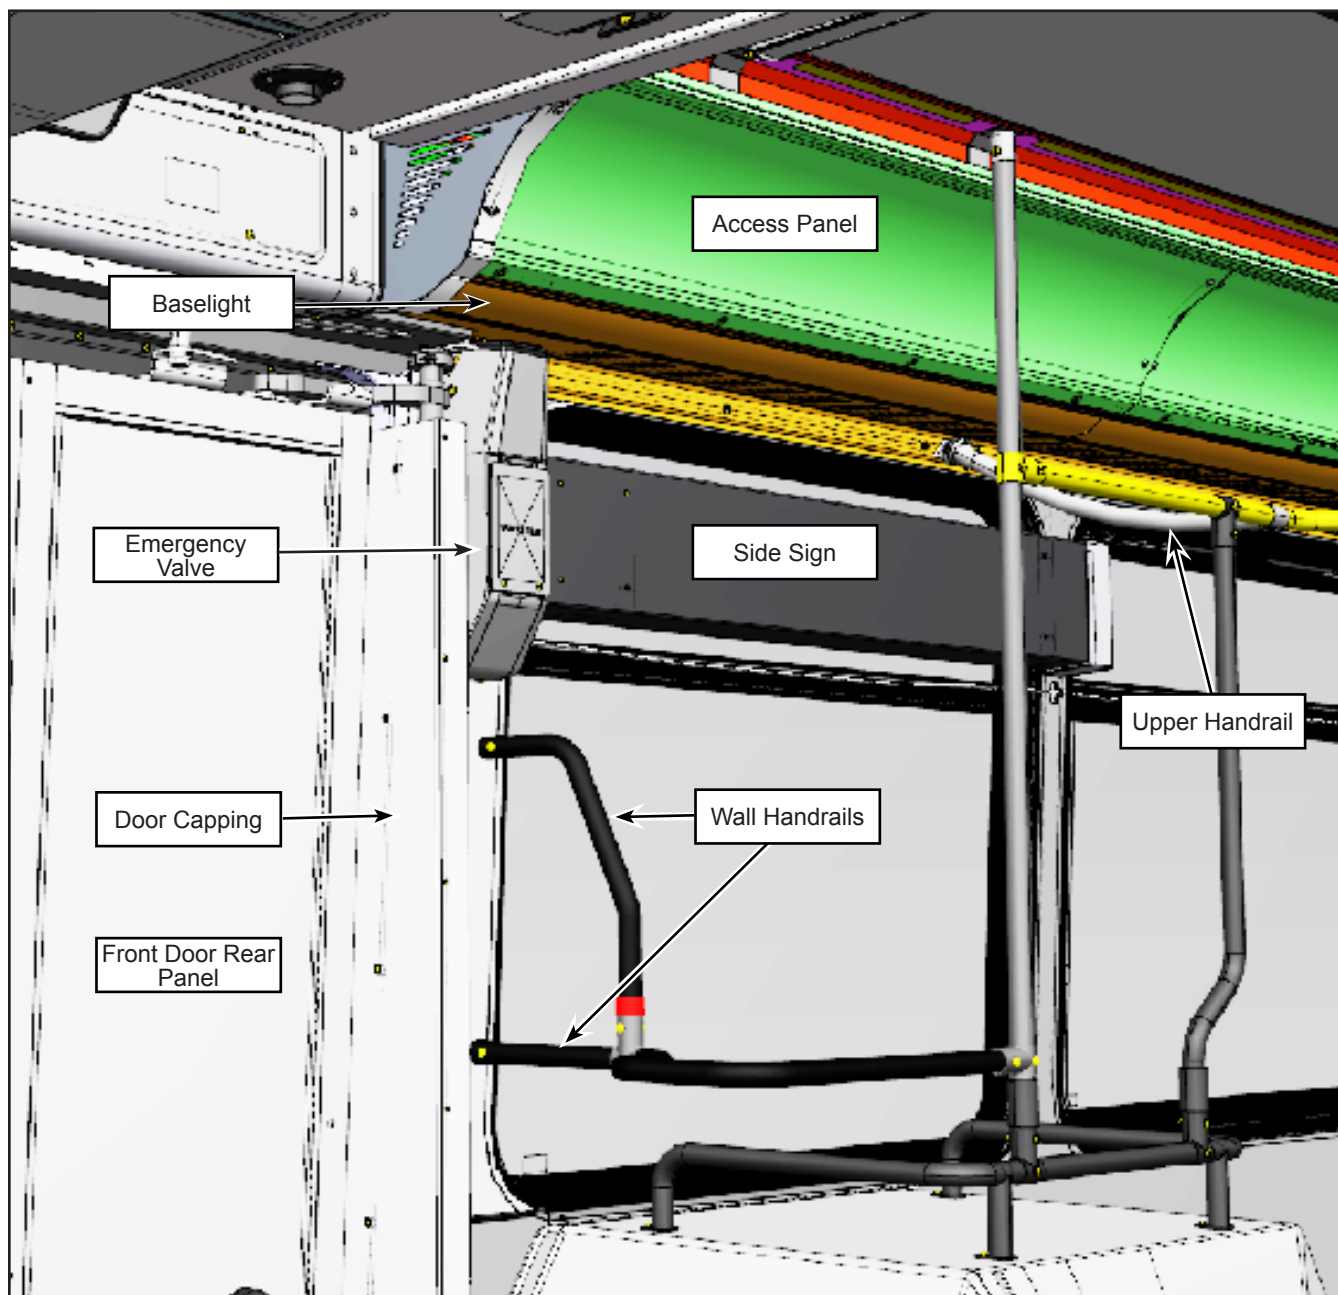

Figure 2 - Parts Identification
- 1.1. Remove the access panel above the first curbside window. See Figure 2.